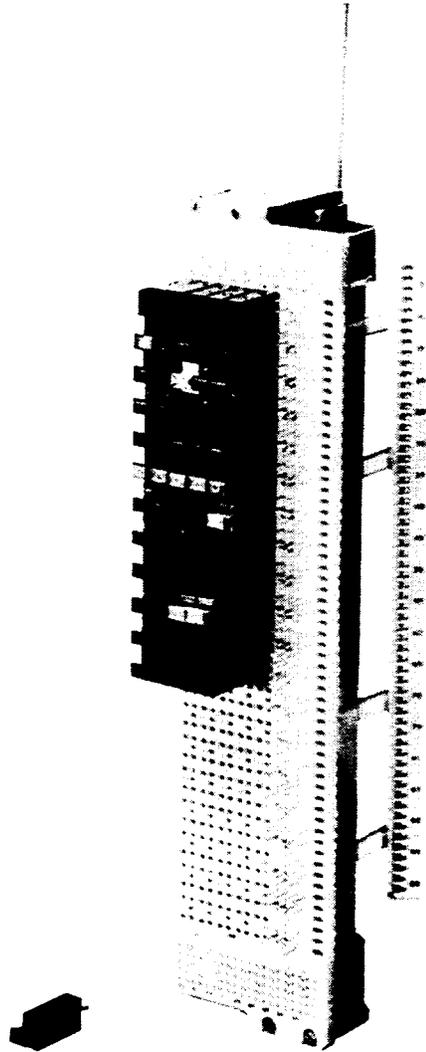

Figure 24—303-Type Connector
6.08 The 303-type connector (Figure 24) terminates outside plant cables requiring protection on conventional and low profile conventional distributing